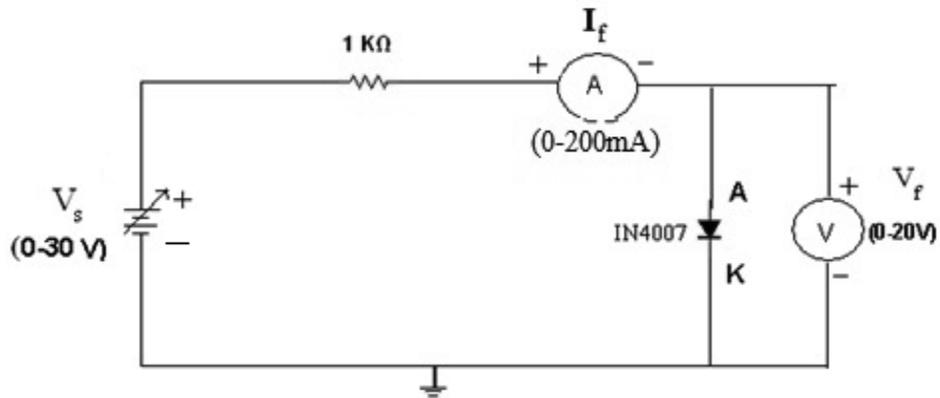

Figure 3.2: Circuit diagram of diode in forward
1. Connect the circuit as shown in figure 3.2